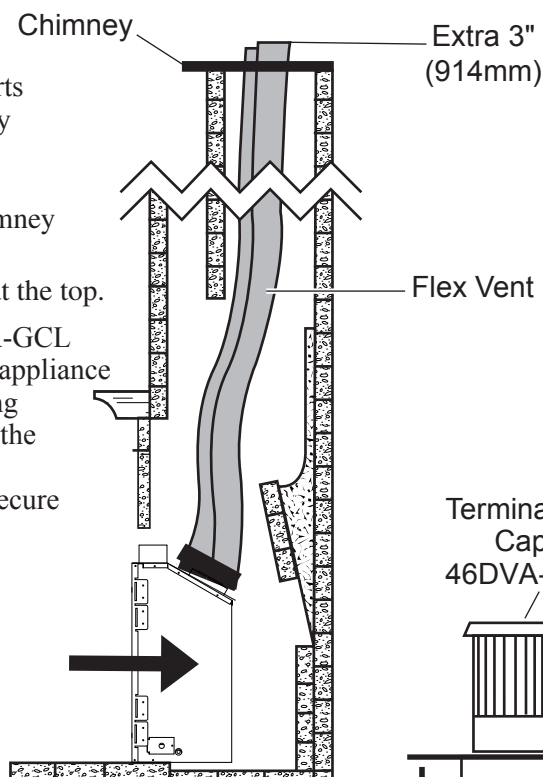

Figure 33b - Attaching Flex Vent to 46DVA-GCL
4. Attach the connector 46DVA-GCL to the fireplace. Position the appliance inside of the fireplace opening and attach both flex vents to the GCL connector. Clamp both vent pipes and secure with screws (See Figure 33b).